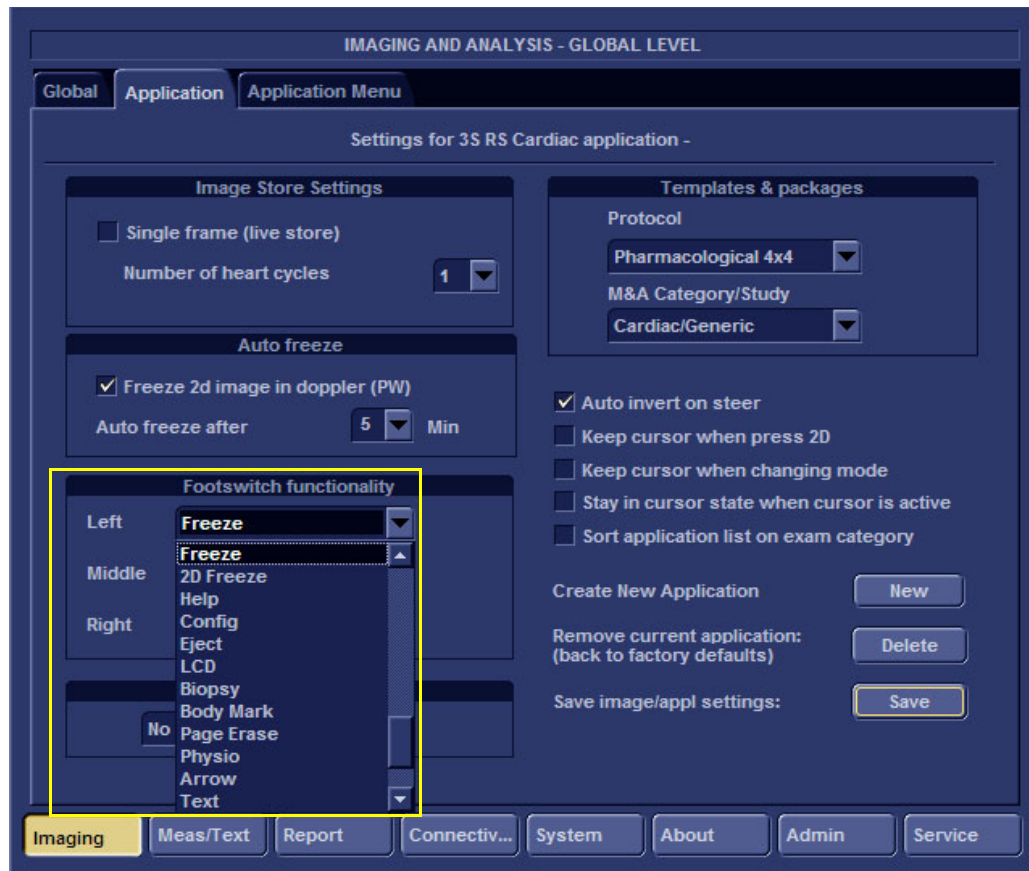

Figure 3-42 Footswitch Functionality Settings
- 3.) Using the **Footswitch Functionality** drop-down menus, select the required functionality for the **Left**, **Middle** and/or **Right** Footswitch - see the example in Figure 3-42.